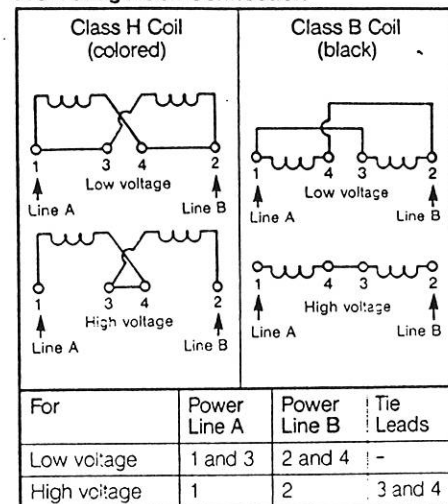

Figure 2
- On single voltage coils, connect coil to any two leads on single or three-phase motors of the same voltage as the brake. Refer to brake nameplate and coil number for correct voltage and frequency. See Figure 2 for dual voltage coil connection and connect to any two leads of single or three-phase motor of the same voltage. The brake can also be wired to external switch contacts providing proper voltage other than that used to control the motor. Normally, the motor and brake contacts are interlocked.